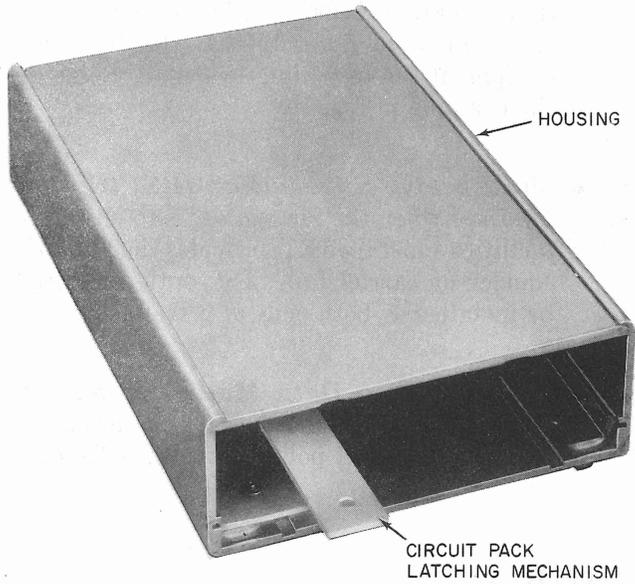

Fig. 8—DS 108F or G Housing
- (2) Release the circuit pack latching mechanism of the data mounting (Fig. 8).